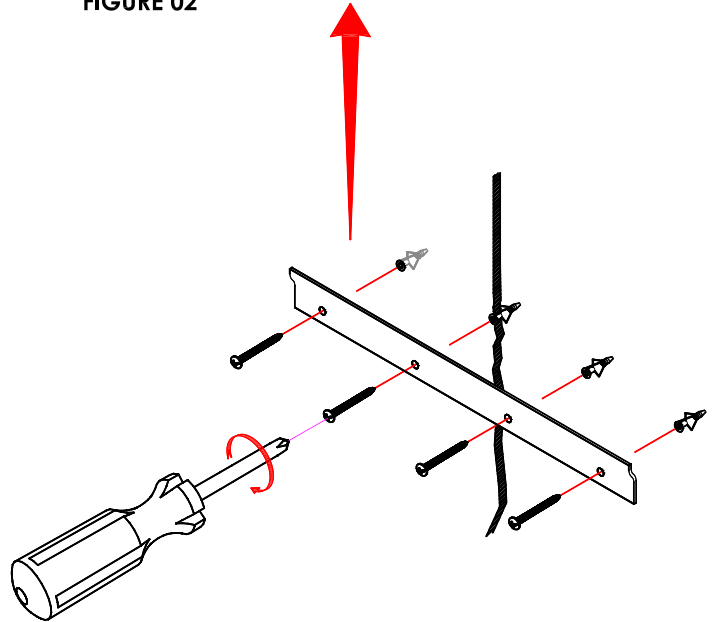

FIGURE 03
1. Pre-set the mirror on your desired location and mark the location with a light pencil mark. Use tape or pencil to transcribe the location of the back of the mirror's pre-installed bracket to the wall. Below this marking is where you will install the included metal wall-mount bracket part (1). See **FIGURE 03**.
5. Install the mirror on the wall bracket as illustrated on **FIGURE 03**.